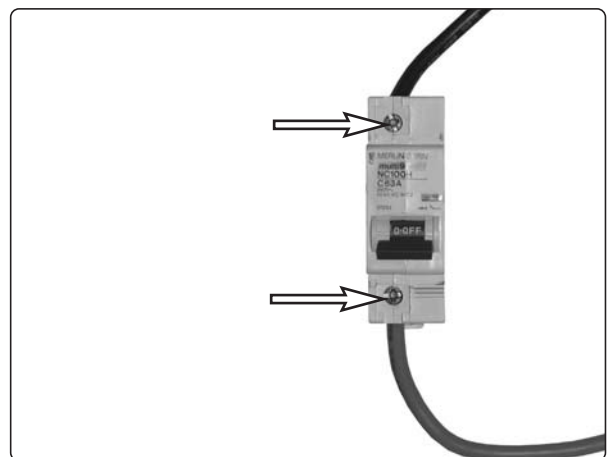

Fig.51. Circuit breaker electrical connections.
6. Disconnect the cables from the circuit breaker by loosening the screws, see fig. 51.